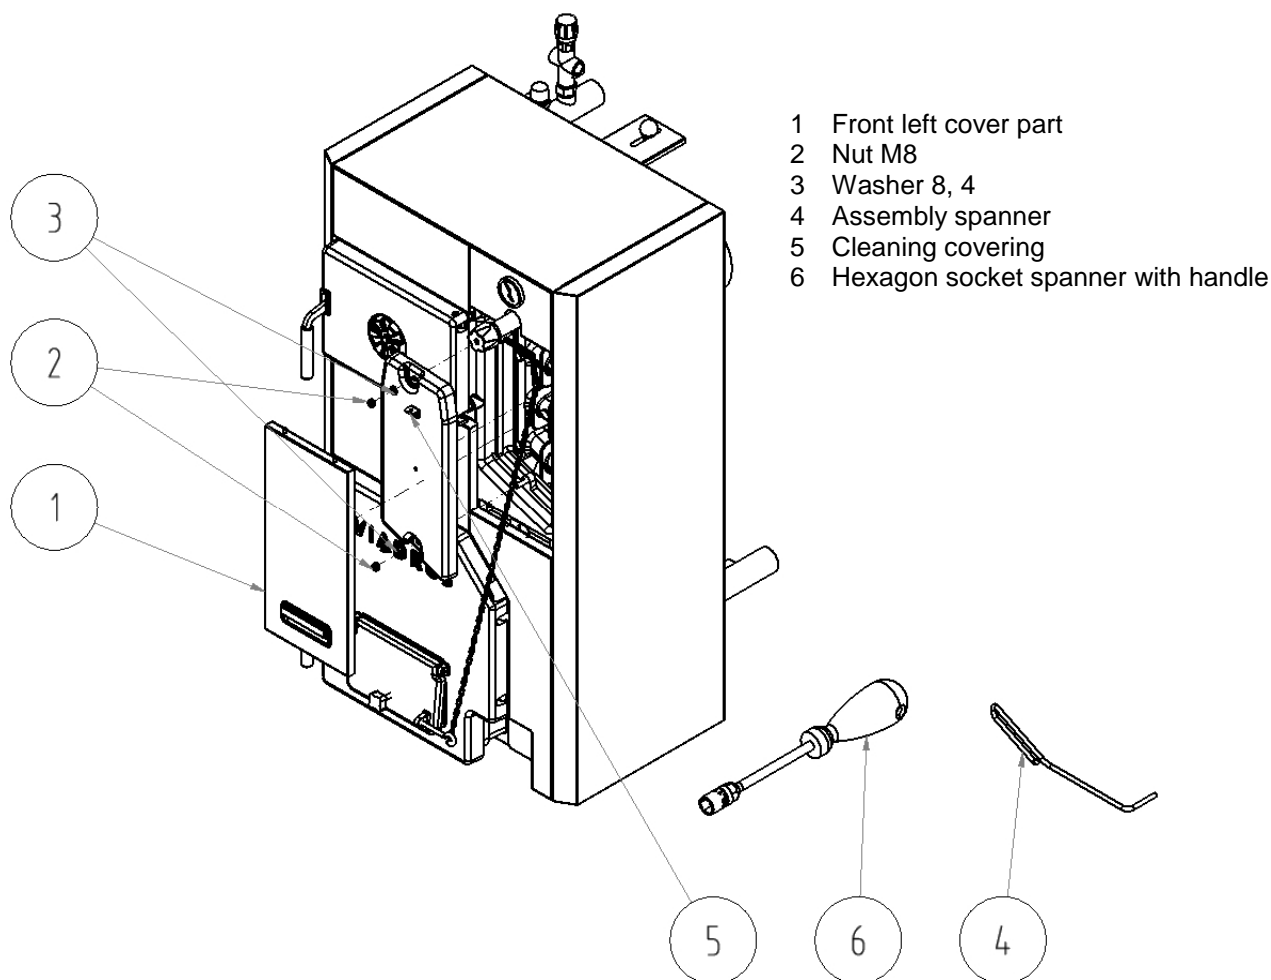

Fig. no. 15 Dismantling of the cleaning covering
3. After the heating season end or as needed (this is influenced by the quality of fuel, chimney draught and setting of boiler) it is necessary to clean up the boiler flue gas passage. It is necessary to screw off the cleaning covering with use of socket spanner with handle, with use of assembly spanner, to put out the partitions of the combustion space, to clean up the flue gas passages with pertinent cleaning tools. (Fig. no. 15). After cleaning up it is necessary to put back the partitions of the combustion space in such way in order the rear boiler part remained close and then to screw up the cleaning covering. Pull out the small ash pan (at 5-10 boiler sections also the rear air-rosette) and clean up the air ducts by inserting your hand with a wrench (see Fig. no. 15 - item 4) into the inlet of tertiary air.